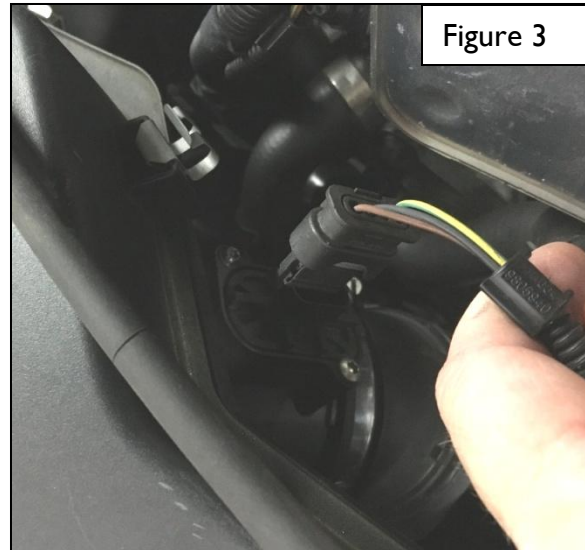

Figure 3
- Unplug airflow meter (see Figure 3)